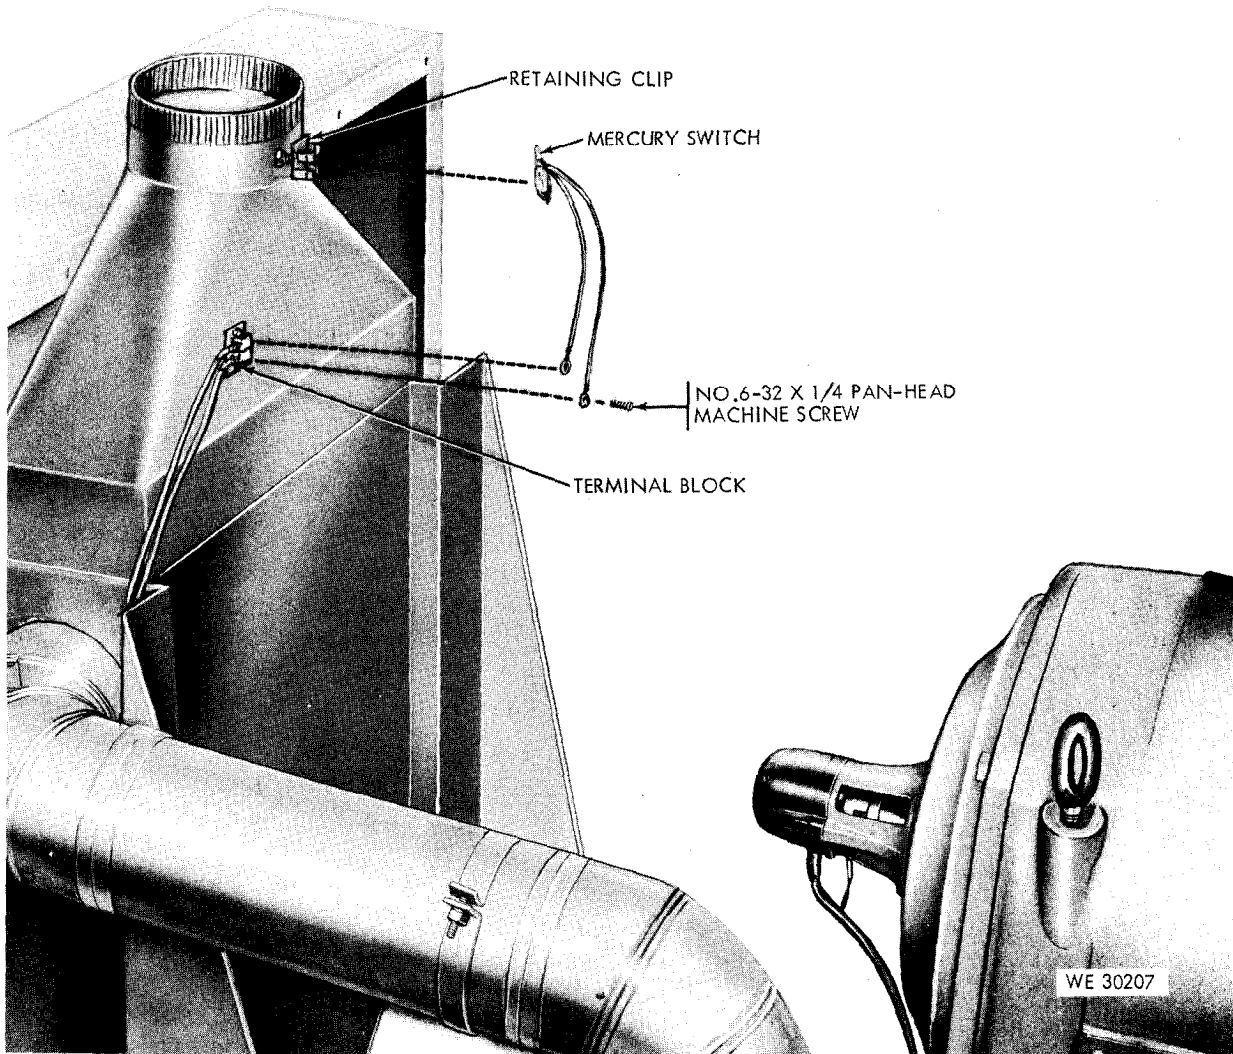

Figure 63. Removal of mercury switch.
The mercury switch (fig. 63) contains two electrical leads and a small amount of mercury in a glass enclosure. The two leads are connected to the test stand circuitry and the switch is either closed or open, depending upon whether or not the mercury is contacting the end of the enclosure to which both leads are attached. The leads are also connected to the circuitry of the blower assembly which cools the load bank within the test stand by expelling the heat out through the air exhaust (fig. 10) of the test stand. The switch is mounted on an air trip plate in the air intake duct and the mercury flow direction is controlled by the angle in which the switch is placed. Through this action the test stand operation is stopped when there is an obstruction in the air intake (fig. 10) of the test stand preventing the heat expelled from the test stand load bank to cause overheating and consequently damaging the load bank and/or the components of the test stand.
c. Removal (fig. 63).
- (2) Unscrew the two pan-head machine screws and remove the leads of the mercury switch from the terminal block. Pull the mercury switch out of the retaining clip.
d. Inspection (fig. 63). Inspect the mercury switch for breaks, chipped glass, cracks, and frayed, burned, hard and brittle leads.
e. Installation (fig. 63).
- (1) Insert the mercury switch in the retaining clip. Position the leads of the switch on the terminal block and secure each lead with a No. 6-32 x ¼ pan-head machine screw.